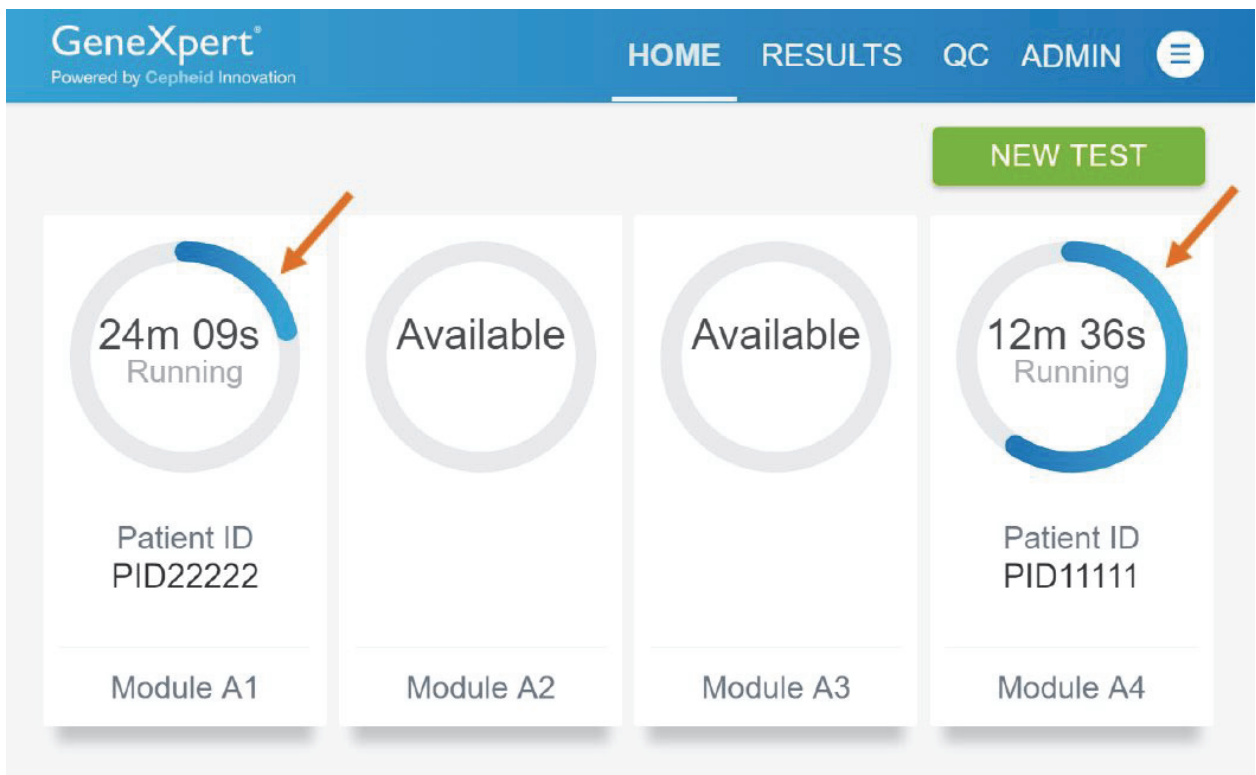

Figure 30. Home Screen showing Two Tests Running
- After a second test has started, touch the **HOME** button. The status of both tests appears. The Home screen displays the module(s) in use with a circular graphic indicator around each test, and Patient Identification below the module graphic (see Figure 30).